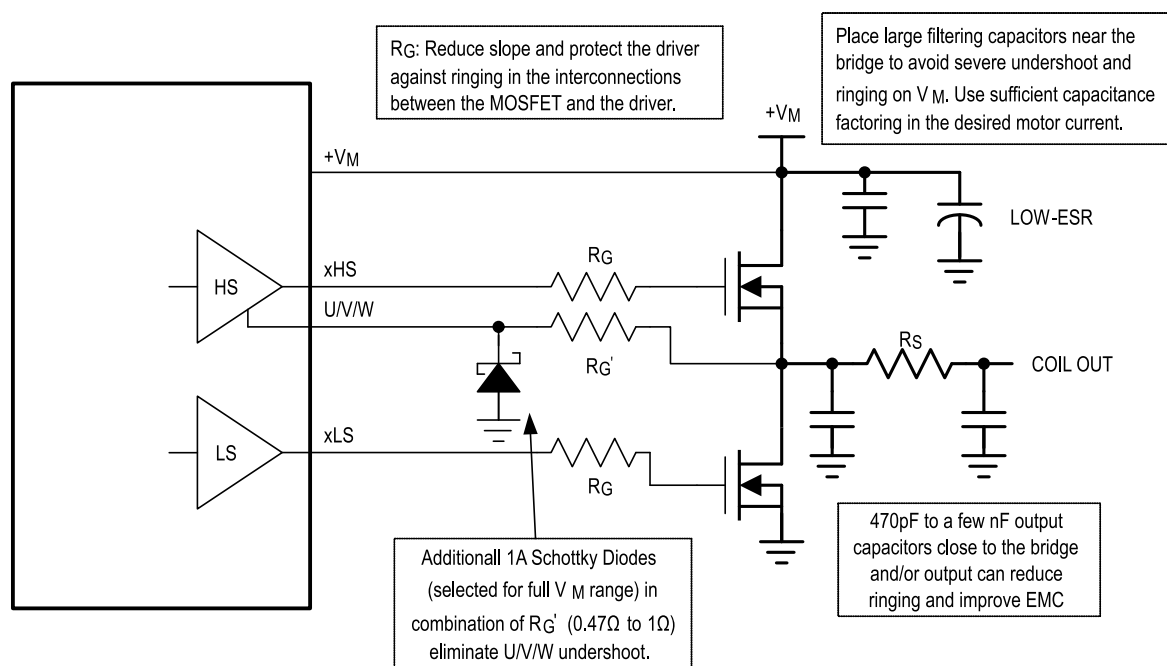

Figure 9: Bridge Protection Options and Power Routing Ringing Mitigation
Stray inductances in power routing cause ringing whenever the opposite MOSFET is in diode conduction prior to switching on a low-side or high-side MOSFET. Diode conduction occurs during break-before-make time whenever the load current is inverse to the following bridge polarity. The MOSFET bulk diode has a certain, type-specific reverse recovery time and charge. This time typically is in the range of a few 10ns. During reverse recovery time, the bulk diode causes high current flow across the bridge. This current is taken from the power supply filter capacitors (see the thick lines in Figure 9). Once the diode opens, parasitic inductances try to keep the current flowing.
- Check influence of optional components shown in Figure 9.